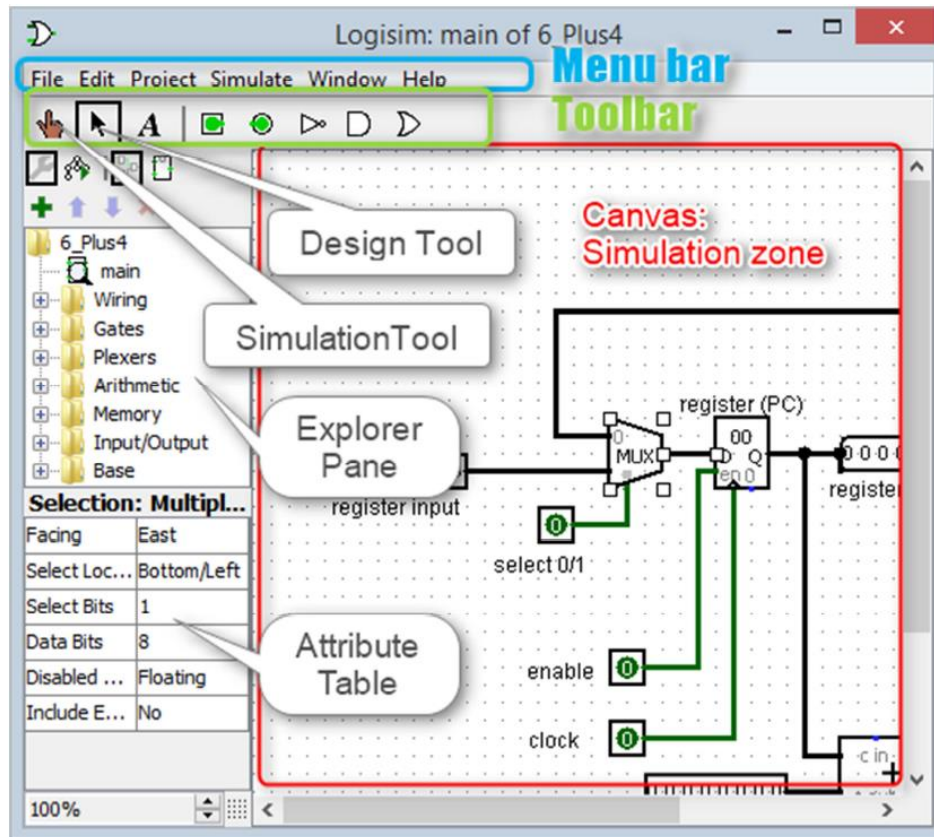

Fig. 1 Logisim Main Window Layout
Logisim is an educational and user-friendly tool. It mainly consists of an interactive graphical schematic editor and logic simulator. Logisim has a layout like most available software tools as shown in Fig 1.
- To use the edit mode, select the Design tool (Figure 1).